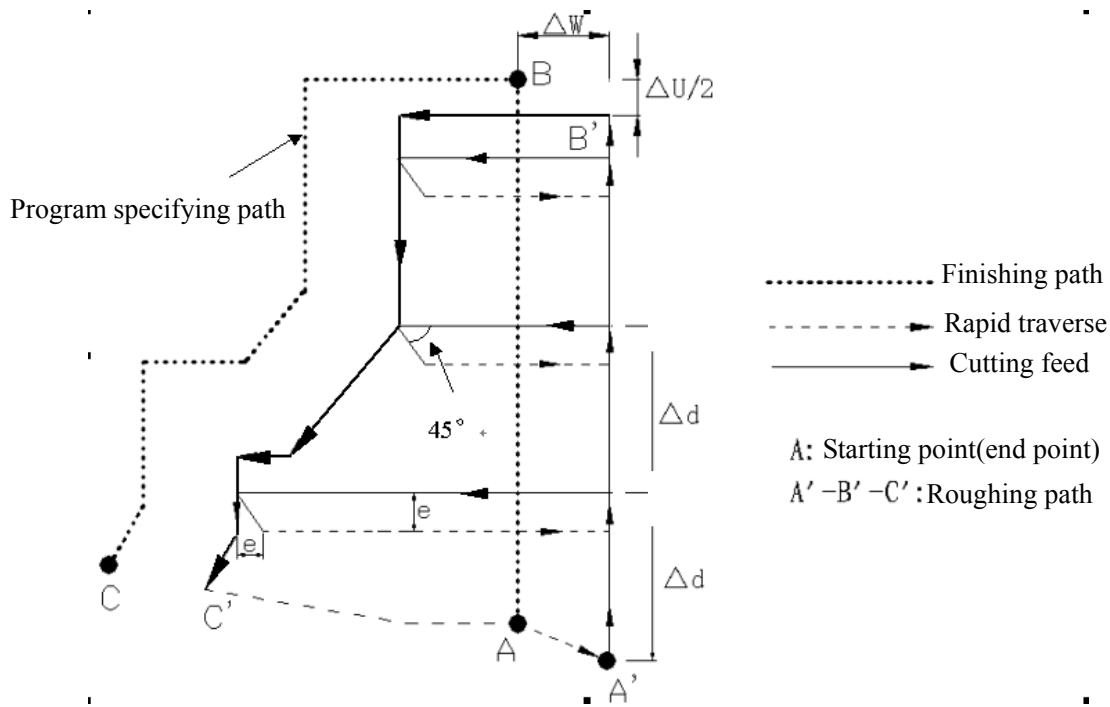

Fig. 3-20 G71 path
**Execution process:(Fig. 3-20)**
- ① Rapid traverse to A' from A point, the travel in X direction is  $\Delta u$ , and the travel in Z direction is  $\Delta w$
- ② The travel in X direction from A' is  $\Delta d$ ( tool infeed), ns block is for tool infeed at rapid traverse speed with G0, is for tool infeed at feedrate F with G71, and its direction of tool infeed is that of A→B point;
- ③ Cutting feeds to the roughing path in Z direction, and its direction is the same that of coordinates in Z direction A→B point;
- ④ The travel of tool retraction is e (45° straight line)at feedrate in X, Z direction, the directions of tool retraction is opposite to that of too infeed;
- ⑤ Rapid retract at rapid traverse speed in Z direction to the position which is the same that of the coordinates in Z direction;
- ⑥ After executing the tool infeed ( $\Delta d+e$ )again in X direction, the end point of traversing tool is still on the middle point of straight line between A' and B'(the tool does not reach or exceed B'), and after executing the tool infeed ( $\Delta d+e$ )again, execute ③; after executing the tool infeed ( $\Delta d+e$ )again, the end point of tool traversing reaches B'point or exceeds the straight line between A'→B'point and execute the tool infeed to B'point in X direction and the execute the next step;
- ⑦ Cutting feed from B'to C'point along the roughing path;
- ⑧ Rapid traverse to A from C'point and the program jumps to the next clock following nf block after G71 cycle is ended.